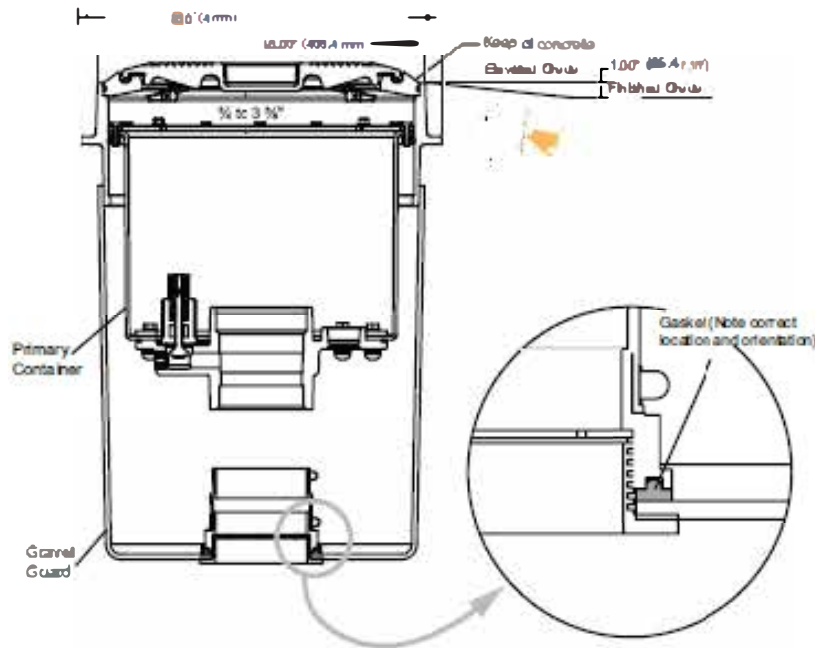

Figure 8: Defender Series Spill Container Overview
21. Pour concrete around the Defender Series™ spill container making sure to dome the concrete at least 1" (25.4 mm) to allow for adequate runoff. The top edge of the concrete should be at the outer edge of the concrete ring tabs (Figure 8). Keep the snow plow ring and cover clean and free of any concrete spatter (the snow plow ring must be able to be removed if service is needed).